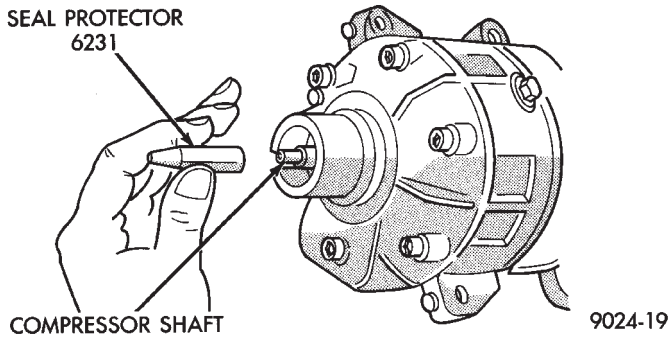
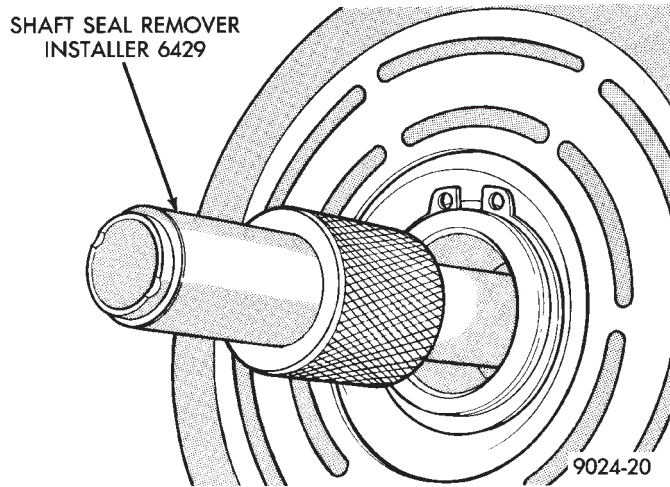

Fig. 14 Shaft Seal Protector
Fig. 15 Install Shaft Seal
- (1) Lubricate the new shaft seal with refrigerant oil.
- (2) Place Seal Protector (6231) over the end of compressor shaft (Fig. 14). Use the larger flat end of the remover/installer and push the seal in until it seats and the snap ring groove is visible above the seal (Fig. 15).